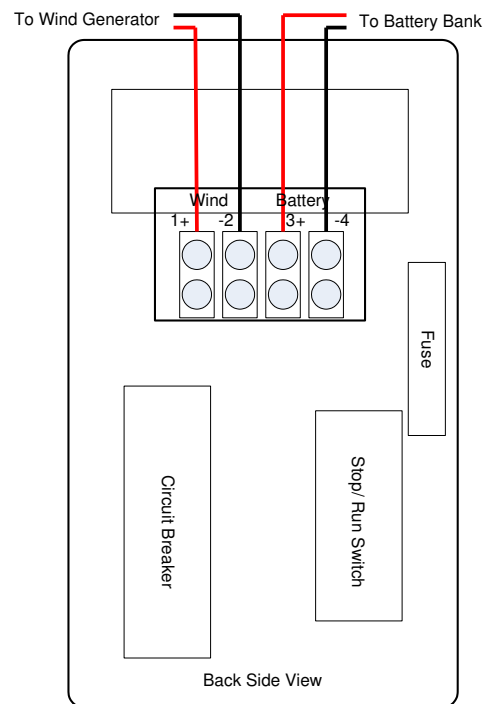

Figure 2
Wind Generator Connection: Mechanically tie off the wind turbine blade so that it cannot operate while making your connections. Connect the wires of the 12-48V wind turbine feed wires to the terminals marked wind. Negative to **-2** and Positive to **1+** of the Control Panel using the appropriate wire size (see Figure 2). The green grounding wire of the wind generator is connected to the grounding system.
1) Battery Connections: Be sure battery feed wires are not connected to the battery at this time. Connect the battery feed wires to terminals marked Battery with Negative to **-4** and Positive to **3+** of the control panel using the appropriate wire size (see Figure 2) .